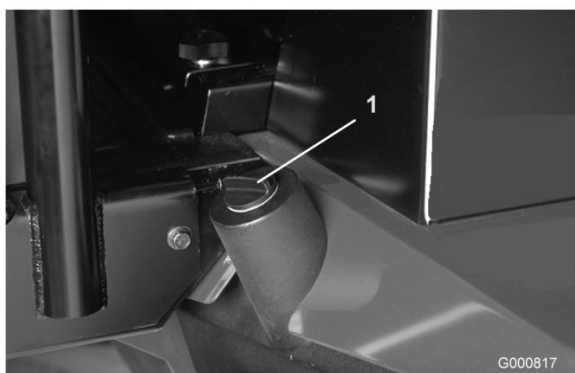

Figure 35
2. Clean area around filler neck and cap of hydraulic tank (Figure 35). Remove cap from filler neck.